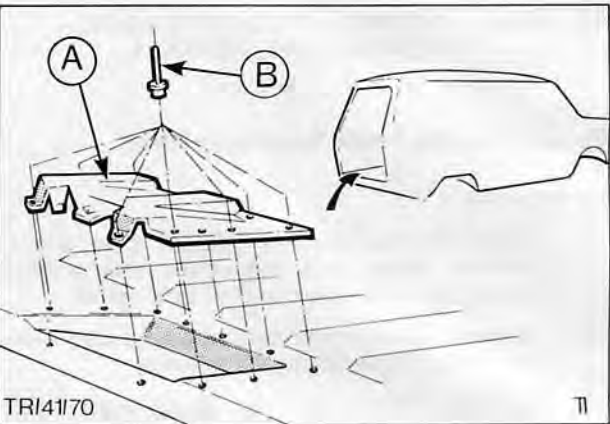

Fig. 62. Tailgate striker cover
4. Position tailgate striker cover to loadspace floor and secure with pop rivets, Fig. 62.